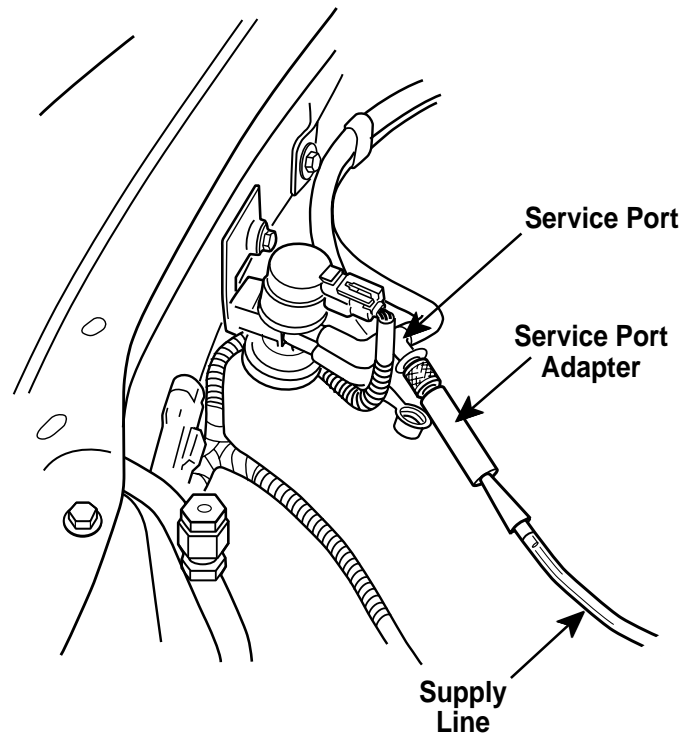

Figure 6
8. Insert the supply hose from the tester into the EVAP service port adapter. See Figure 6.